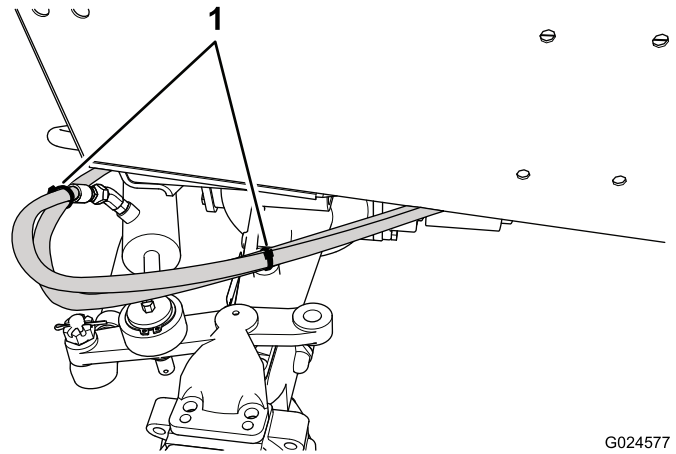

Figure 7
- Route the hoses around the corner of the frame and under the right frame rail. Install (2) cable ties around the hoses (Figure 7).